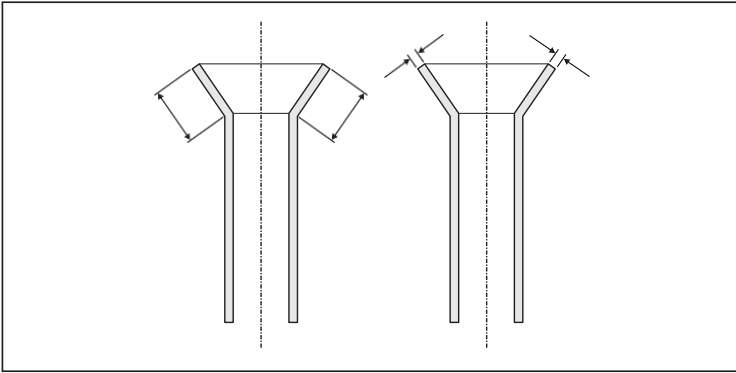
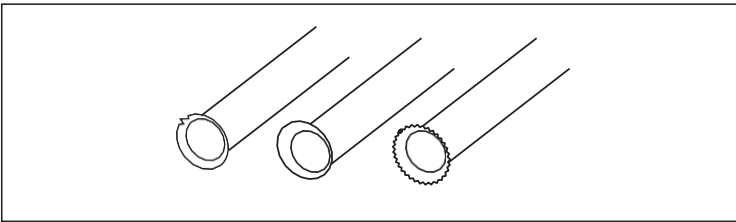
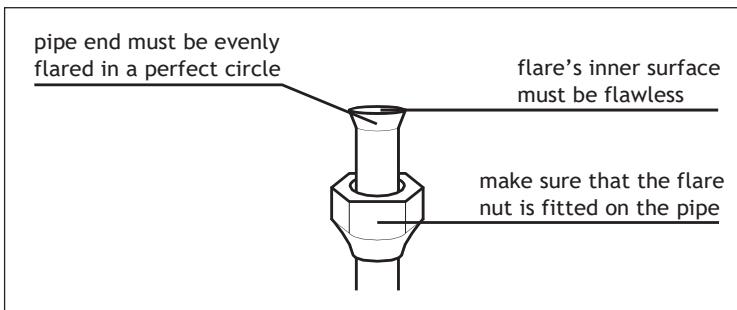

Figure 8. A proper flare has the same length and wall thickness all around.
Figure 9. Examples of unusable flares.
Figure 10. Check to see that the flaring on the pipes is done correctly.
6. Check that the flaring is properly done (see Figure 8, Figure 9 and Figure 10).